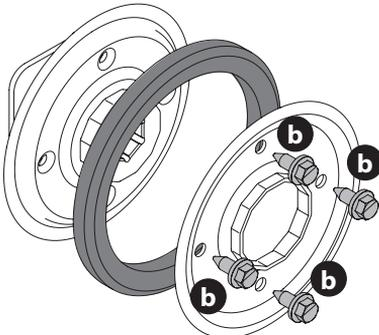

Figure 89
- Remove four screws (b) which secure friction wheel's side plates together (Figure 89).